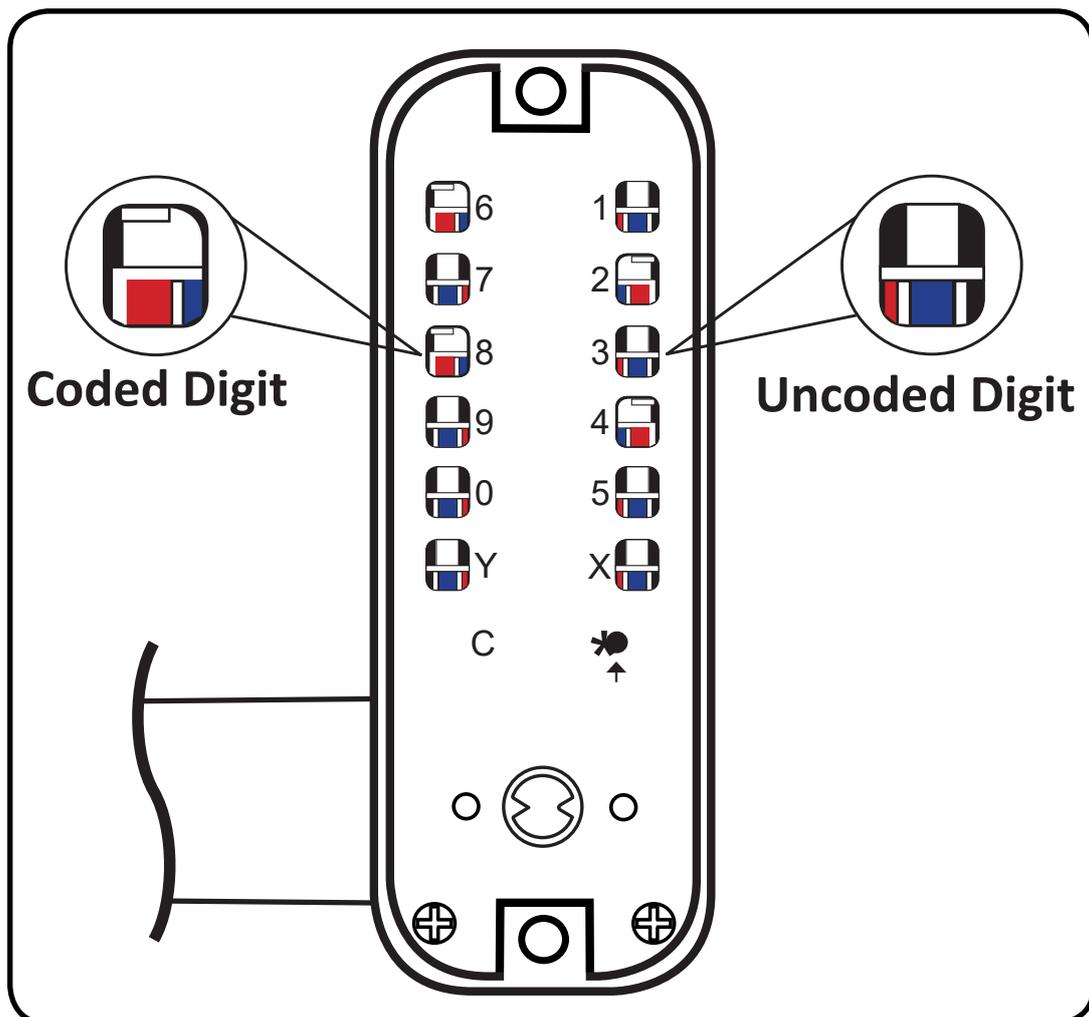

Fig.18
4. As per **Fig.18** below, you will see that the red lines on digits 2, 4, 6 and 8 are closest to the centre of the porthole and is therefore the code. All the other holes will show a blue line - these are not in the code.